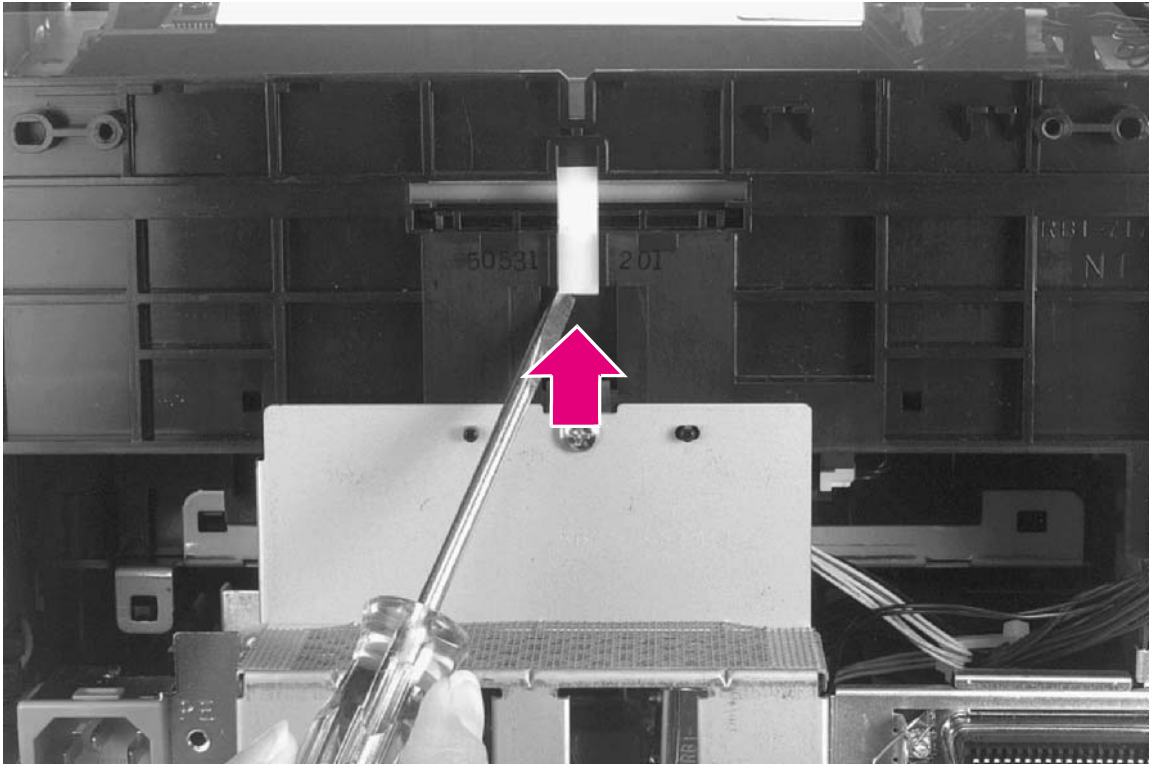

Figure 6-33 Separation Pad removal
- 2 Lift the bottom of the white plastic tab on the rear of the Paper Feed Frame up slightly and slide it up, toward the top of the Paper Feed Frame. This will release the Separation Pad (Figure 6-33).